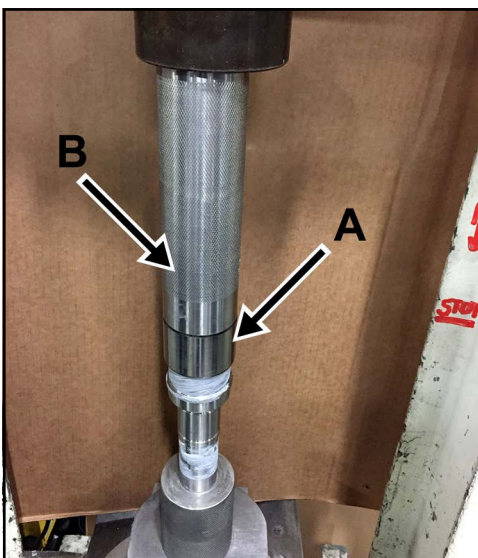

Figure 166 - Press race onto shaft
4. Press the inner race of the needle roller bearing (Figure 166, item A) onto the shaft as shown. Figure 166, item B is a bearing press assembly tool.